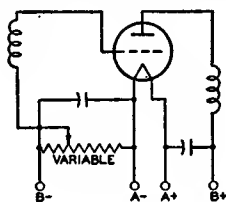

Fig. 78
Grid-bias variation for the rf and if amplifier stages is a convenient and frequently used method for controlling receiver volume. The variable voltage supplied to the grid may be obtained: (1) from a variable cathode resistor as shown in Figs. 78 and 79; (2) from a